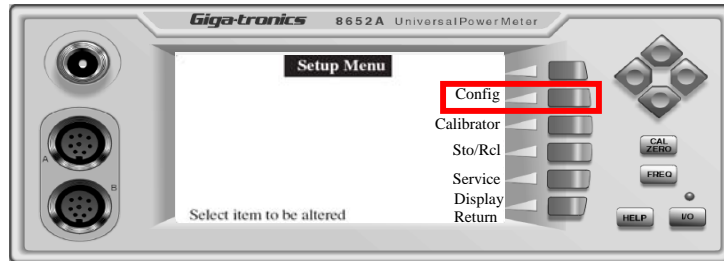

Figure 5: Configure power meter setup
- From the Setup Menu, select the “Config” softkey. See figure 5.